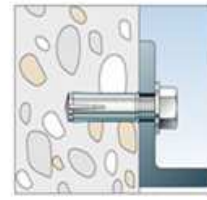

Figure 5
5. Screw the hexagon head screw M16x50 (do not forget the washer) through the safe into the drop-in anchor and tighten it with a torque of **60 Nm** [Fig. 5].